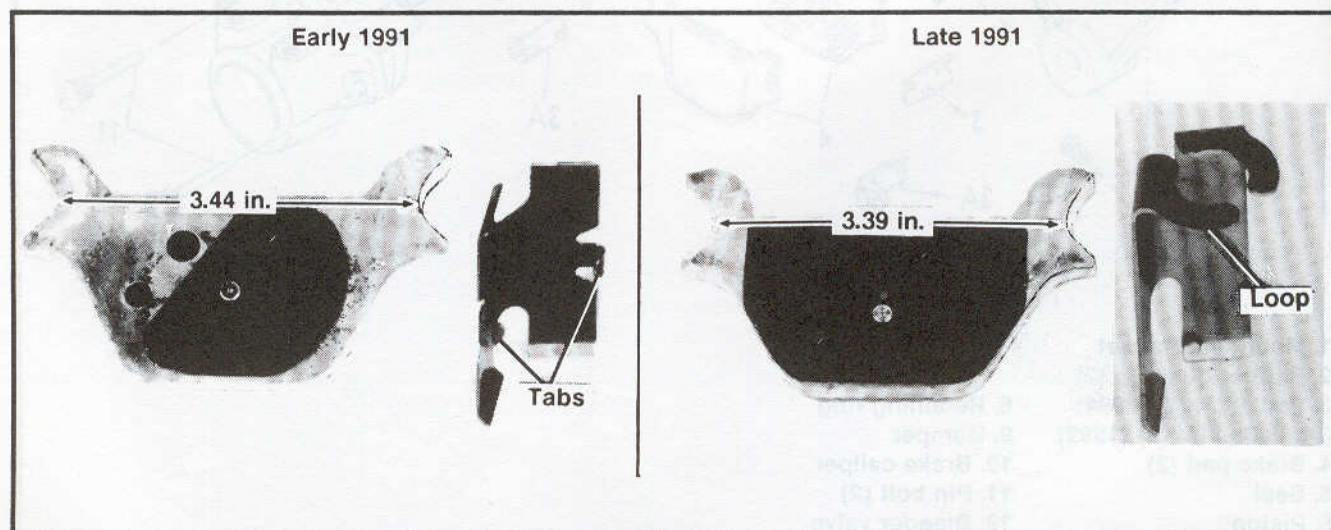

Figure 2-48. Rear Brake Pads and Abutment Shims - Early 1991 Style and Late 1991 Style
- See Figure 2-48. Early 1991 style abutment shims must only be used with early 1991 style brake pads. Late 1991 style abutment shims must only be used with late 1991 style brake pads. Installing early 1991 style shims with late 1991 style pads, or late 1991 style shims with early 1991 style pads, will result in improper rear brake operation, which may cause loss of vehicle control and personal injury.